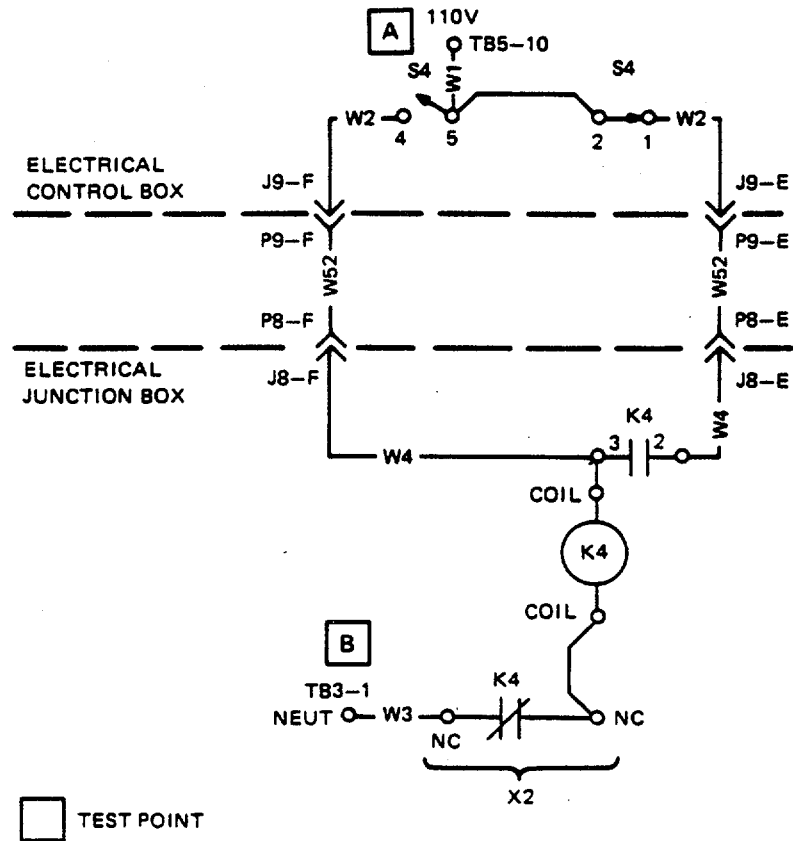

Figure 3-10. Raw Water Pump No. 1 Assembly Support Diagram
Ensure that all circuit breakers are set. Refer to figure FO-3 for schematic diagram and figure FO-4 for interconnection diagram. Refer to figure 3-1 for control box support diagram, figure 3-2 for junction box support diagram, and figure 3-10 for raw water pump no. 1 support diagram.
- Step 3. Shut down ROWPU. Refer to TM 10-4610-239-10. Shut down power. Refer to generator manual. Refer to raw water pump no. 1 assembly support diagram figure 3-10. Hold RAW WATER PUMPS NO. 1 switch in START position. Check continuity point-to-point between test points A and B through S3-5 and S3-4.
Step 4. Shut down ROWPU. Refer to TM 10-4610-239-10. Shut down power. Refer to generator manual. Refer to raw water pump no. 1 assembly support diagram figure 3-10. Set RAW WATER PUMPS NO. 1 switch to RUN position. Check continuity point-to-point between test points A and B through S3-2 and S3-1.